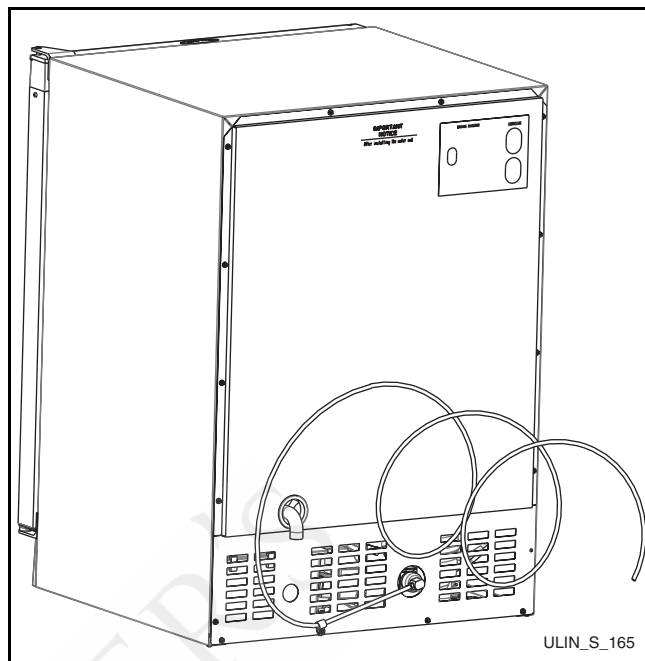

Figure 1
- Leave approximately 8' of water line to be coiled behind the appliance (**Figure 1**). The water line should be looped into 2 coils. This will allow the unit to be removed for cleaning and servicing. However, make certain that the tubing is not pinched or damaged during installation.
1. Locate the desired cold water supply location. Attach a 1/4" copper line to this location and route the tubing to the appliance. Leave approximately 8' of water line to be coiled behind the appliance. The water line should be looped into 2 coils. This will allow the line to flex when removing the unit for cleaning and servicing (**Figure 1**).